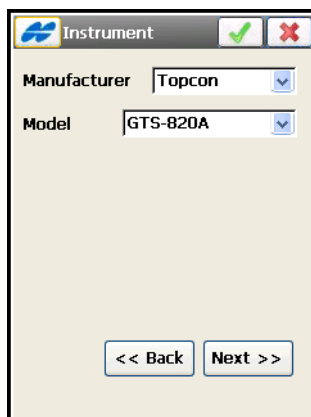

Figure 4-73. Instrument
3. In the **Instrument** screen, select the manufacturer (Topcon or Sokkia) and the model of the device, then tap **Next** (Figure 4-73 on page 4-57). For Conventional surveys Nikon and Leica instruments can be also defined. Leica instruments are also supported in the Reflectorless survey type. Note that the models shown in the list correspond to the chosen type of survey.